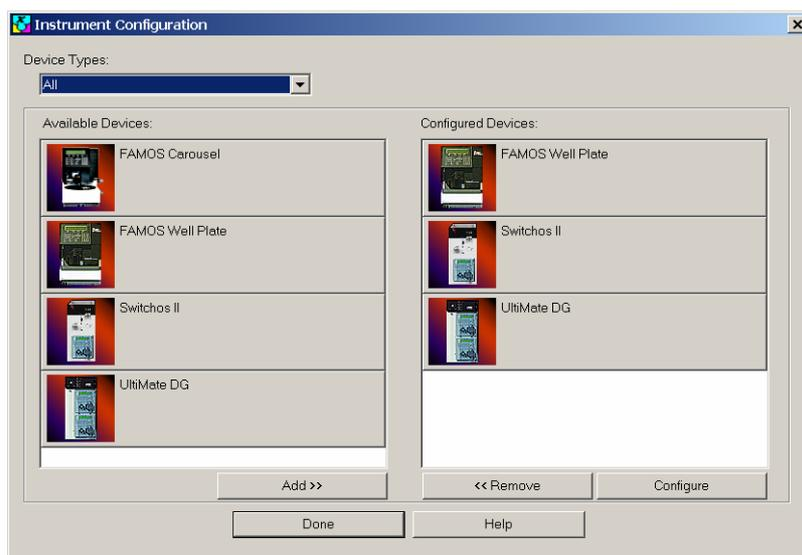

FIGURE 2-14 The Instrument Configuration Window – 3 Instruments selected
- c) Once you have finished the selection of the required instruments, the window will look similar to FIGURE 2-14.
- d) The next step is the configuration of the instruments as described in the following sections. To configure the components, either double click on an instrument in the right panel or just select the instrument by a single click and then choose the **Configure** button in the Instrument Configuration Window (FIGURE 2-14).